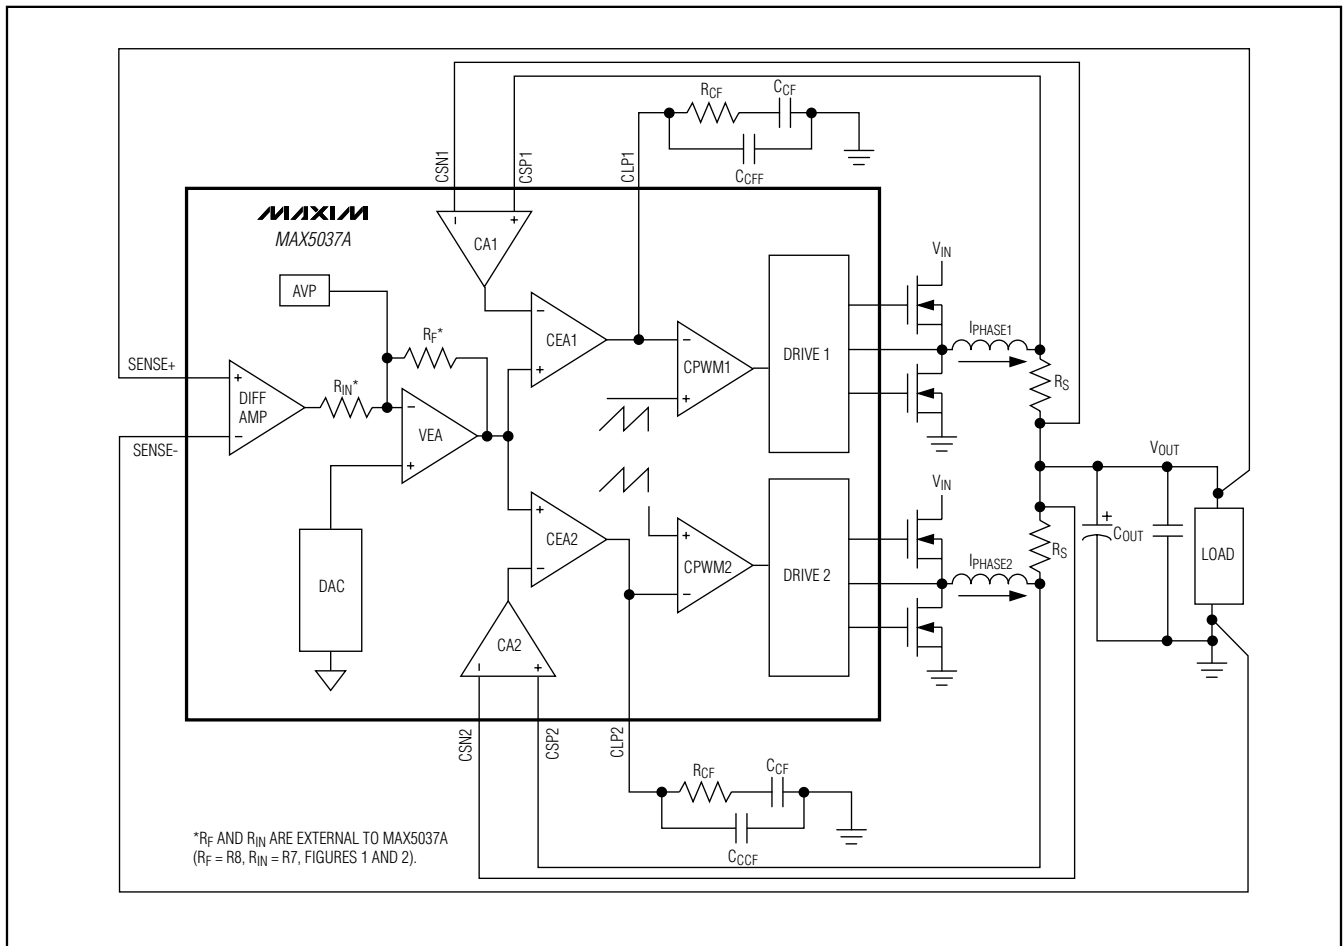

Figure 3. MAX5037A Control Loop
The MAX5037A uses an average-current-mode control scheme to regulate the output voltage (Figure 3). The main control loop consists of an inner current loop and an outer voltage loop. The inner loop controls the output currents (IPHASE1 and IPHASE2), while the outer loop controls the output voltage. The inner current loop absorbs the inductor pole reducing the order of the outer voltage loop to that of a single-pole system.
The outer voltage control loop consists of the differential amplifier (DIFF AMP), adaptive voltage-positioning (AVP) block, digital-to-analog converter (DAC), and voltage-error amplifier (VEA). The unity-gain differential amplifier provides true differential remote sensing of the output voltage. The differential amplifier output and the AVP connect to the inverting input (EAN) of the VEA. The noninverting input of VEA is internally connected to the DAC output. The VEA controls the two inner current loops (Figure 3). Use a resistive feedback network to set the gain of the VEA as required by the adaptive voltage-positioning circuit.
Each phase of the MAX5037A has a dedicated transconductance current-error amplifier (CEA-) with a typical  $g_m$  of 550 $\mu$ S and 320 $\mu$ A output sink and source current capability. The CEA- outputs, CLP1 and CLP2, serve as the inverting input to the PWM comparator. CLP1 and CLP2 are externally accessible to provide frequency compensation for the inner current loops (Figure 3). Compensate CEA- such that the inductor
The unity-gain differential amplifier (DIFF AMP) facilitates the output voltage remote sensing at the load (Figure 3). It provides true differential output voltage sensing while rejecting the common-mode voltage errors due to high-current ground paths. Sensing the output voltage directly at the load provides accurate load voltage sensing in high-current environments. The VEA provides the difference between the differential amplifier output (DIFF) and the desired VID programmed output voltage. The differential amplifier has a unity-gain bandwidth of 3MHz. The difference between SENSE+ and SENSE- regulates to the programmed VID output voltage.
The VEA output clamps to 0.9V relative to  $V_{CM}$  (0.6V), thus limiting the average maximum current from individual phases. The maximum average current-limit threshold for each phase is equal to the maximum clamp voltage of the VEA divided by the gain (18) of the current-sense amplifier. This results in accurate settings for the average maximum current for each phase. Set the VEA gain using  $R_F$  and  $R_{IN}$  for the amount of output voltage positioning required within the rated current range as discussed in the *Adaptive Voltage Positioning* section (Figure 3).